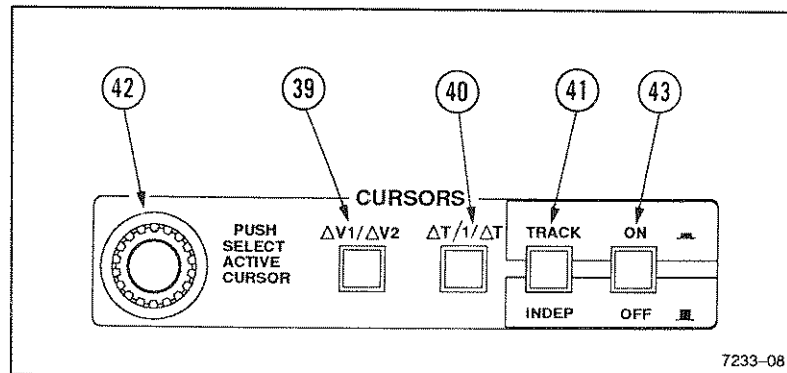

Figure 3-6. Cursor controls.
See Figure 3-6 for the location of items 39 through 43.